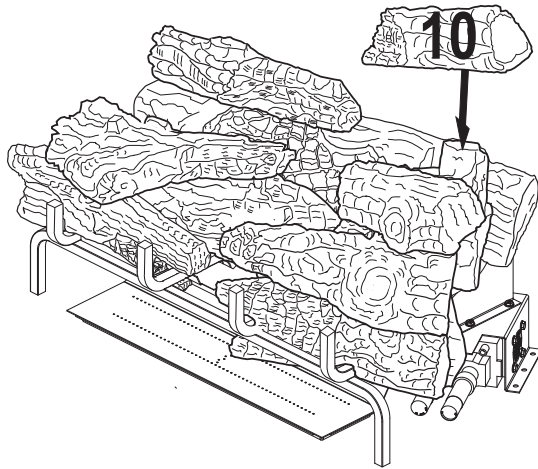

Figure 31 - Installing Log # 10
10. Place the right rear top log (#10) on top of the right rear chunk log (#7) as shown in **Figure 31, Page 18**. Match the rectangular peg on the top of the right rear chunk log (#7) with the rectangular hole on the bottom of the right rear top log (#10).